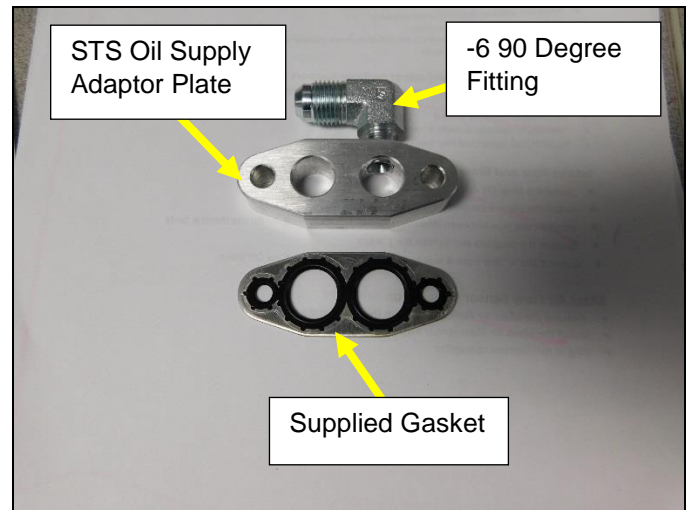

Figure 34
4. Install the -6 x 1/8" NPT 90° fitting into the oil supply adapter fitting with the fitting facing the front of the car (**Figure 34**).